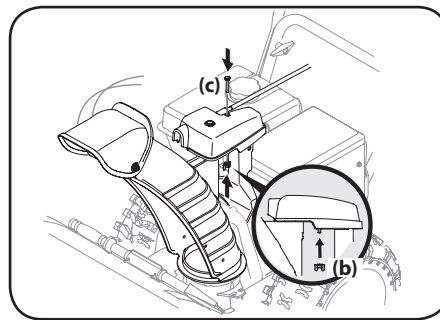

Figure 2-25
2. Finish securing chute control assembly by installing hex screw (c) and wing nut (b) removed in Step 1. See Figure 2-25.